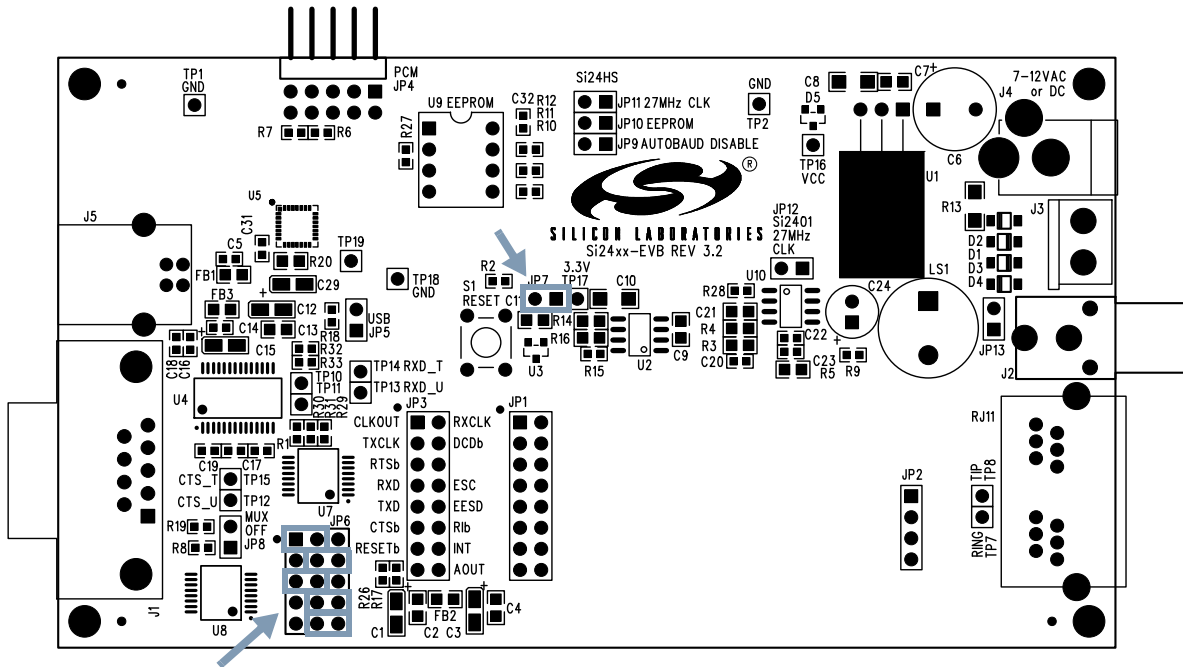

Figure 1. Standard Factory Jumper Settings—RS-232 Interface (Outlined in Gray)
1. Set jumpers according to Figure 1.
Check all jumper settings on the Si2401FS10-EVB before applying power. Figure 1 shows the standard factory jumper settings. These settings configure the Si2401FS10-EVB for RS-232 serial operation. Any standard terminal program configured to communicate through a PC COM port can be used to communicate with the Si2401FS10-EVB. To connect the modem directly into an embedded system with LVCMOS/TTL levels, install JP8 to disable both the RS-232 and USB interfaces. Connection to the embedded system can be made to JP-3. Place a jumper on JP13 to enable the onboard speaker, LS1.
This operation mode uses the standard factory jumper settings illustrated in Figure 1 on page 3. The Maxim MAX3237 transceiver interfaces directly with the TTL levels available at the serial interface of the Si2401 and, using internal charge pumps, makes these signals compatible with the RS-232 standard. The RS-232 transceiver on the Si2401FS10-EVB can communicate at rates between 300 bps and 1 Mbps. This simplifies the connection to PCs and other Data Terminal Equipment (DTE). The signals available on the Si2401FS10-EVB serial interface (DB9 connector) are listed in Table 4.